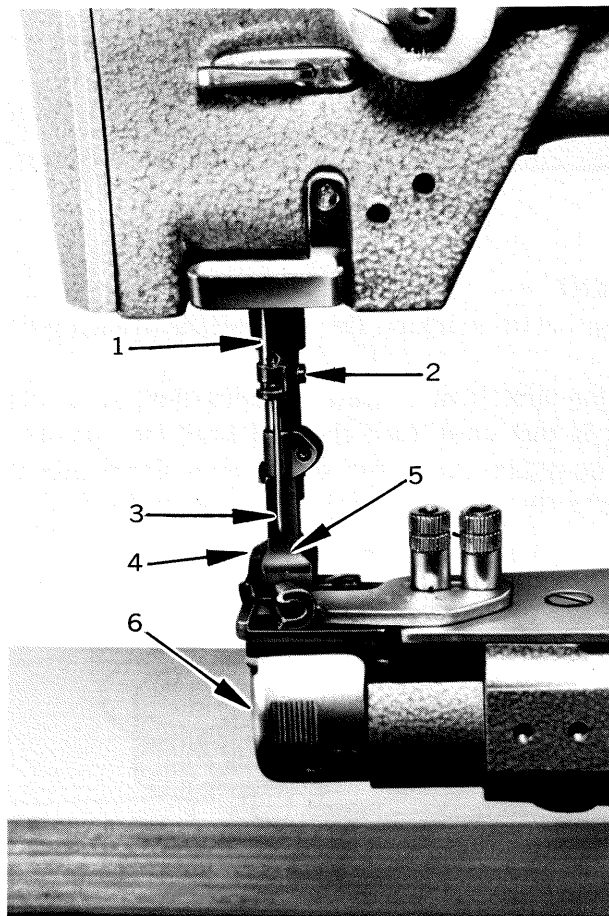

Fig. 3
NEEDLE (Fig.3)
1. Raise the needle bar to its highest point. Draw out the end cover (6, Fig. 3)
- * To adjust the lift, loosen the wing nut (1), move up the nut to raise the lift, and push down this nut to lower the lift.
- * When altering the lift of the lifting presser foot (4, Fig. 3) unequally against that of the vibrating presser foot (5, Fig. 3) or vice versa, see the instructions "ADJUSTING THE HEIGHT OF THE PRESSER FEET".